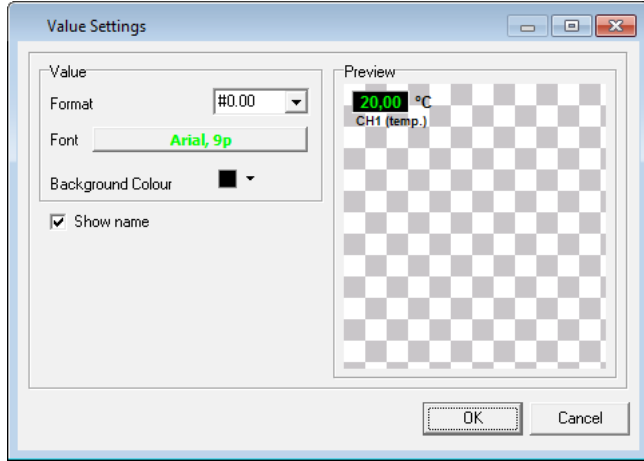

Figure 9.12. Example of a value indicator with the appearance settings window
- Settings of Value type indicator (**Figure 9.12**) are as follows: